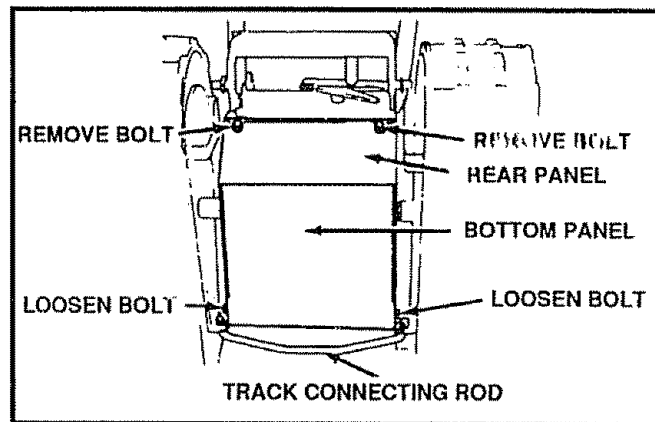
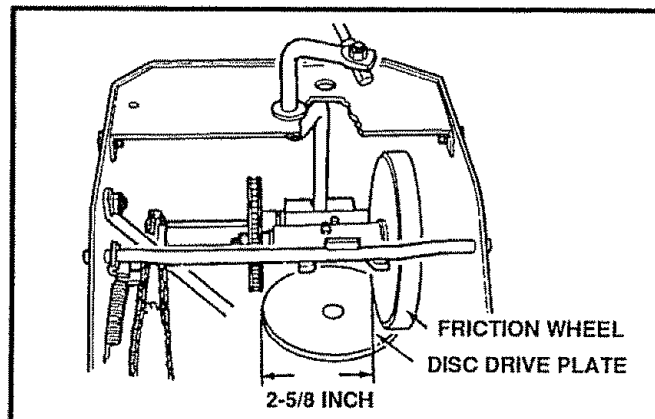

FIG. 32
FIG. 33
- Remove the bottom panel (See Fig. 32).
- Position the shifter lever in first (1) gear.
- Note the position of the friction wheel on the disc drive plate. The right side of the friction wheel should be 2-5/8" from the left outer side of the disc drive plate (See Fig. 33).